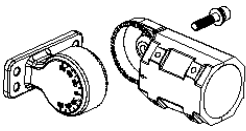

figure 1
1. Separate the slip fitter from the knuckle by removing the adjustment bolt using the hex wrench. (see fig 1)